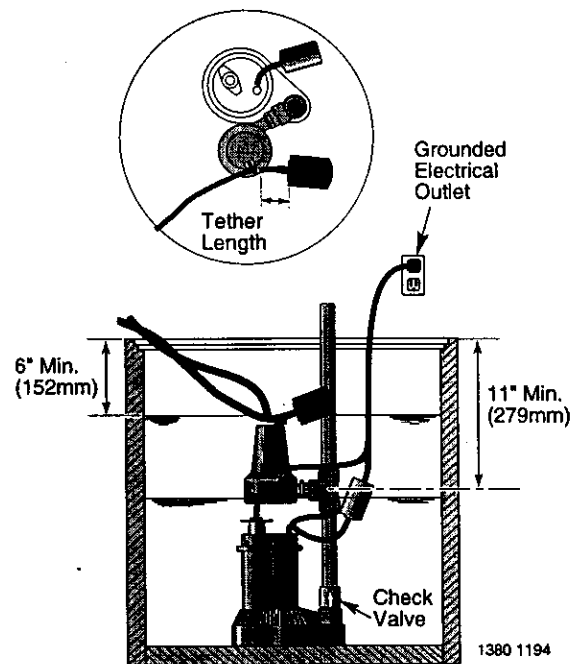

Figure 2A - Standard Installation
3. Drain sump. Measure down 11 inches from top of sump; mark this point on side of sump. Install tee with center of threaded inlet at least this far below top of sump to allow sufficient room for float switch to swing (see Figure 2A).
- C. Install a check valve (SEARS Stock No. 2789) in the main sump pump discharge pipe between the pump and the backup mounting tee (see Figures 2A and 2B).